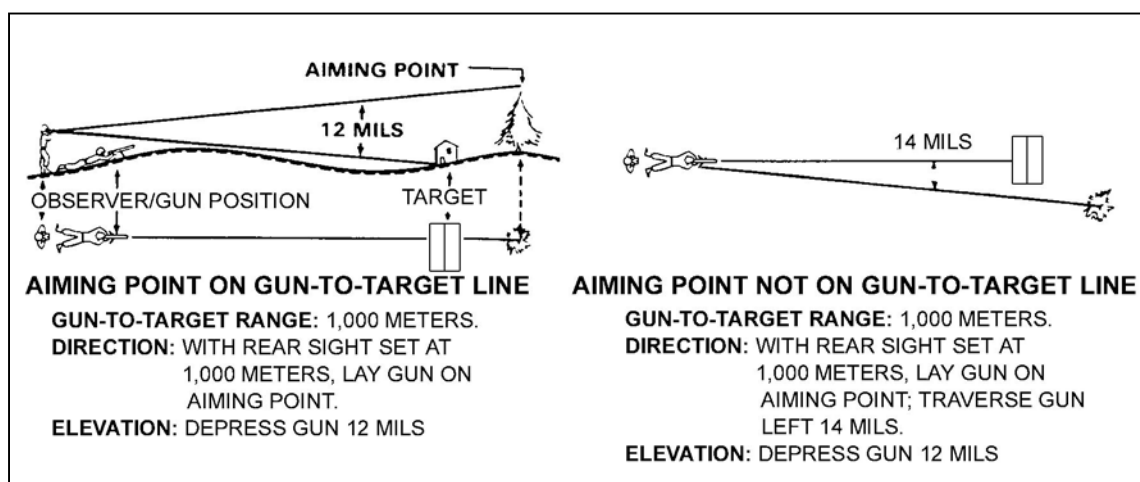

Figure 5-20. Observer adjusting fire.
(1) If the mask is 300 meters or less from the machine gun position, the gunner places a 300-meter range setting on the rear sight, aims on the top of the mask and adds 3 mils (clicks) of elevation with the elevating handwheel.
(2) If the mask is over 300 meters from the machine gun position, the gunner places the range setting to the mask on the rear sight, aims on the top of the mask, and adds 3 mils (clicks) of elevation.
c. The observer places himself to the rear of the machine gun on the gun-to-target line and in a position where he can see the machine gun and the target. He aligns the machine gun for general direction by directing the gunner to shift the machine gun until it is aligned on the target. A prominent terrain feature or landmark visible to the gunner through his sights is selected as an aiming point. This aiming point should be at a greater range than the target and at a higher elevation. When laying the machine gun on the aiming point, the range setting on the rear sight must correspond to the range to the target. (Figure 5-20.)